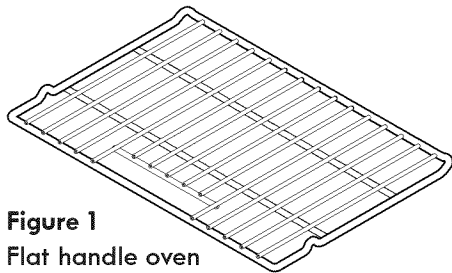

Figure 1
- Flat handle oven rack (Figure 1).
The Flat Oven Handle Rack has an handle to facilitate the sliding of the rack when large amount of foods weight on it (See Figure 1).